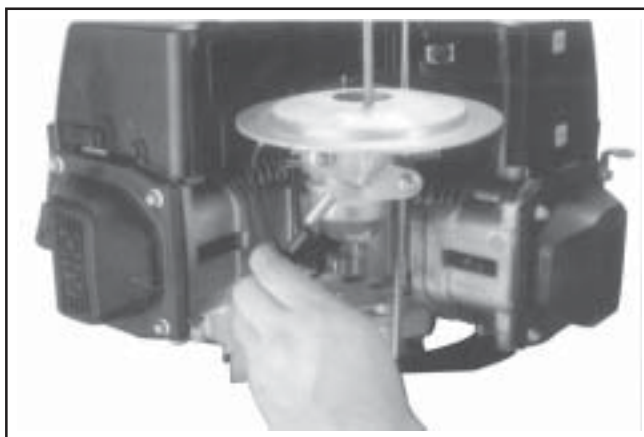

Figure 11-83. Installing Fuel Line (Commercial Mower Shown).
3. Connect the fuel lines. See Figure 11-83.